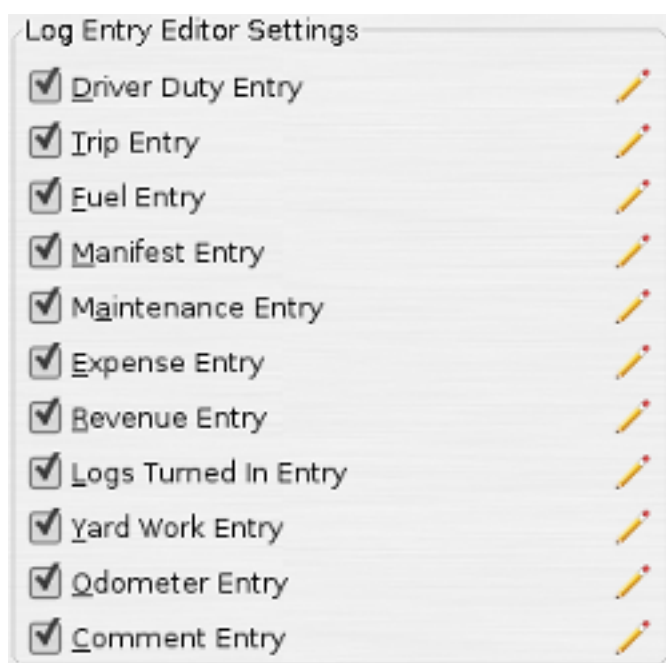

Figure 5.34. Log entry editor settings
2. Under the "Log Entry Editor Settings" you will see a series of checkboxes which correspond to each log entry type. Unchecking those checkboxes will disable that log entry type in the application see Figure 5.34, “Log entry editor settings”.
2. Under "Log Entry Editor Settings" you will see checkboxes for each log entry type. To the right of each of those check boxes is a small yellow pencil see Figure 5.34, "Log entry editor settings". When the driver clicks the yellow pencil a dialog will appear that lists each of the fields in the log entry. The driver should mark "Yes" if they want the field displayed in the log entry dialog, and click "No" if they don't see Figure 5.35, "Duty Status field customization dialog" for an example of one of the log entry field enable/disable dialogs.